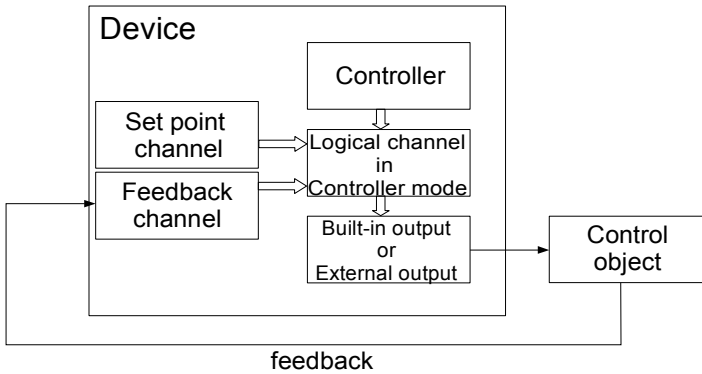
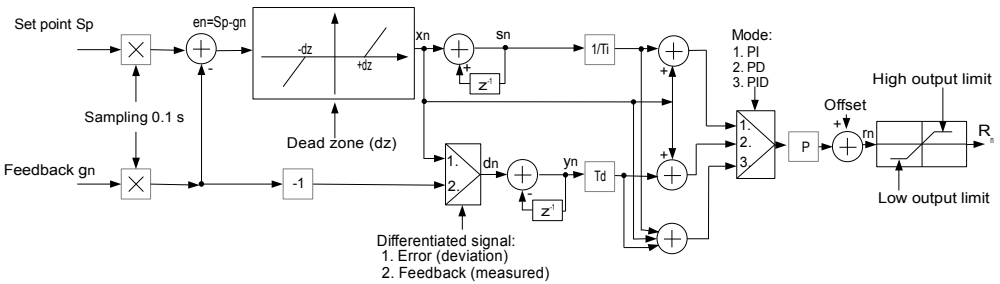

Fig. 7.114. Block diagram of the control loop of the object by MultiCon
Fig. 7.115. Block diagram of the **Controller** implemented in the device
- **Differentiated signal** - this parameter is available for the **PD** and **PID** mode and allows the selection of the option (see **Fig. 7.114** and **Fig. 7.115**):
Note! After offsetting the output signal the output value is limited to the range set in **Low output limit** and **High output limit** parameters (see **Fig. 7.115**),
Fig. 7.114 shows the block diagram of a control process of an object with the **Controller** implemented in the device. Set the setting of the selected Controller to be connected to the **Logical channel** operating in the **Controller** mode. In this **Logical channel**, select the **Set point channel** and the **Feedback channel**, which store the data required to control the object. Respectively, the **Set point channel** contains a destination value of the process, while the **Feedback channel** includes the value of feedback coming from the object controlled. MultiCon uses data collected from these channels and the corresponding Controller controls the object.